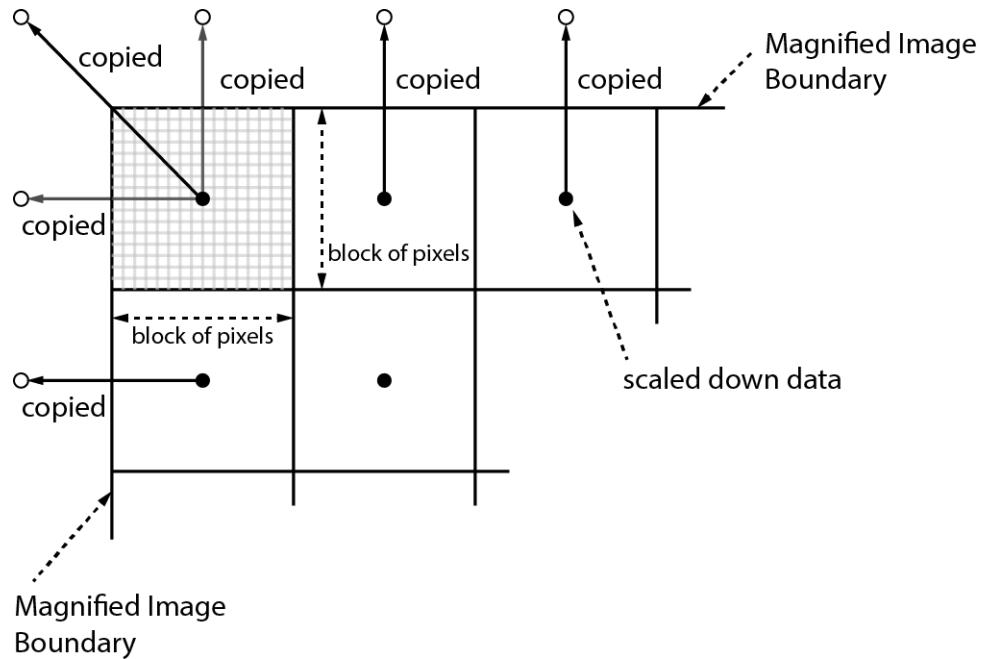

Figure 8.21 Bilinear Interpolated Magnification
4. Enable the Flat Field Correction feature by using the "sfc" command. The Flat Field data will be enlarged via Bilinear Interpolation as shown in the Figure 8.21.